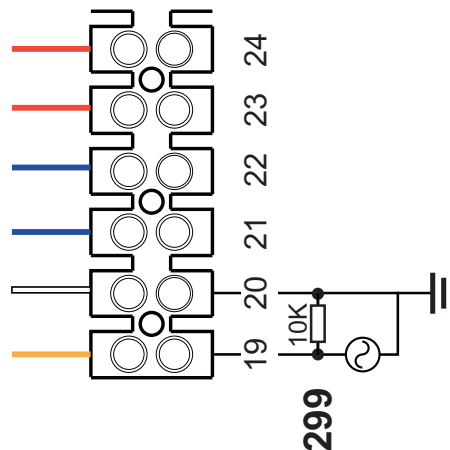

fig. 91-
**ATTENTION:** In case of instability in the reading of the 0-10V signal by the electronic controller, it is advisable to connect the signal reference to ground, and insert a 10K resistor in parallel, as per fig. 91.